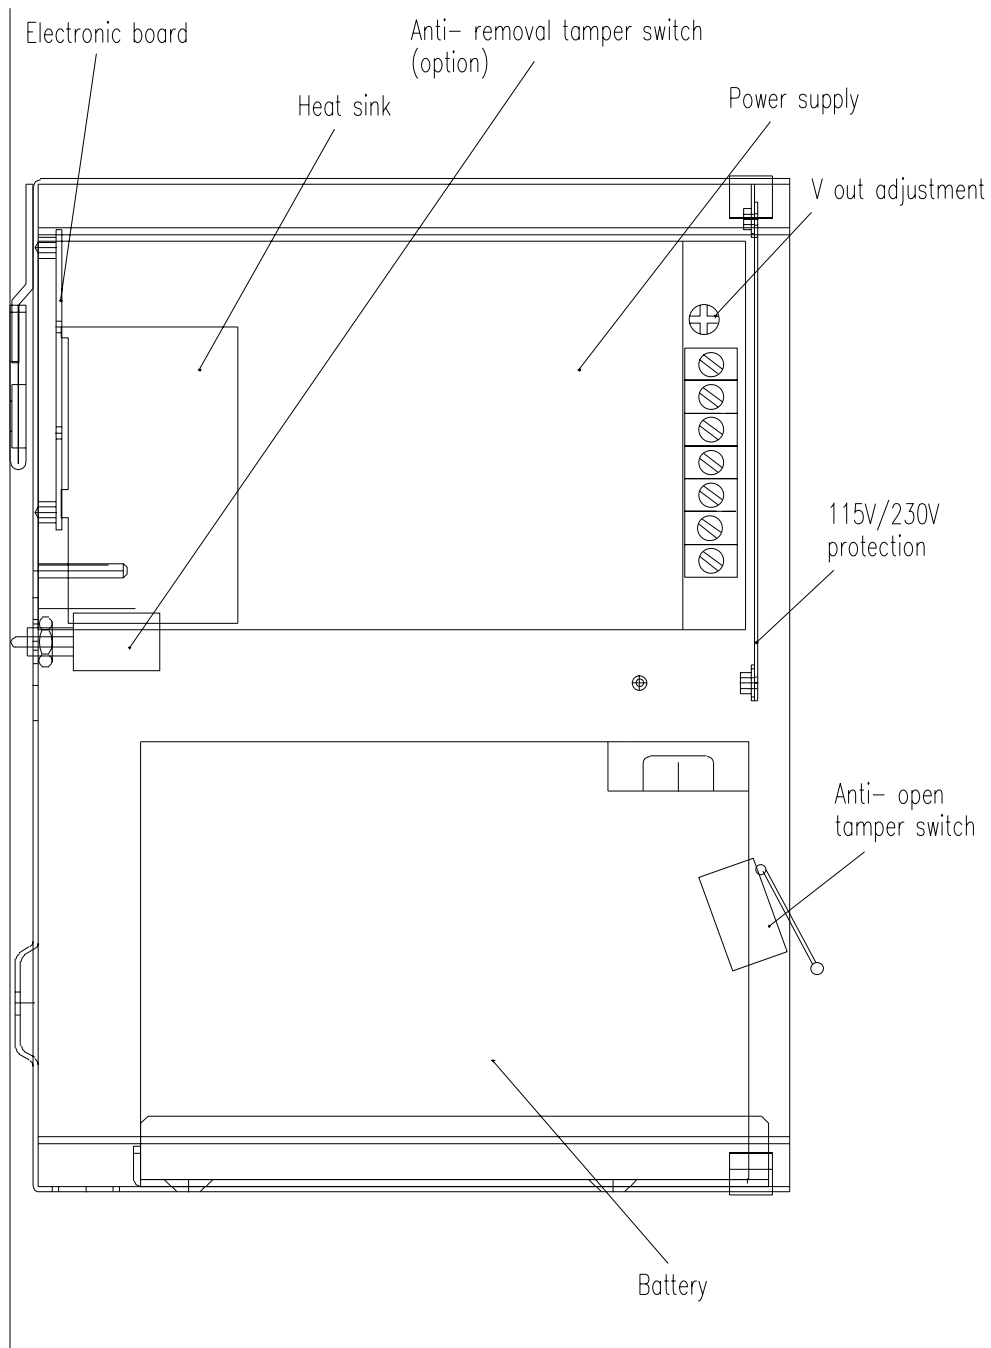

Figure 11. Elemental Detail (side view)
1. If the voltage is <13.8V then this needs to be regulated using the trimmer positioned on the power supply, as seen in Figure 11. After disconnecting the battery and the load, the voltage at the J3 terminal must be regulated to 14V. If it is not possible to regulate to 14V, the power supply is faulty and must be replaced.
1. If the voltage is $< 13.8V$, this needs to be regulated using the trimmer positioned on the power supply, as seen in Figure 11. After disconnecting the battery and the load, the voltage at the J3 terminal must be regulated to 14V. If it is not possible to regulate to 14V, the power supply is faulty and must be replaced.